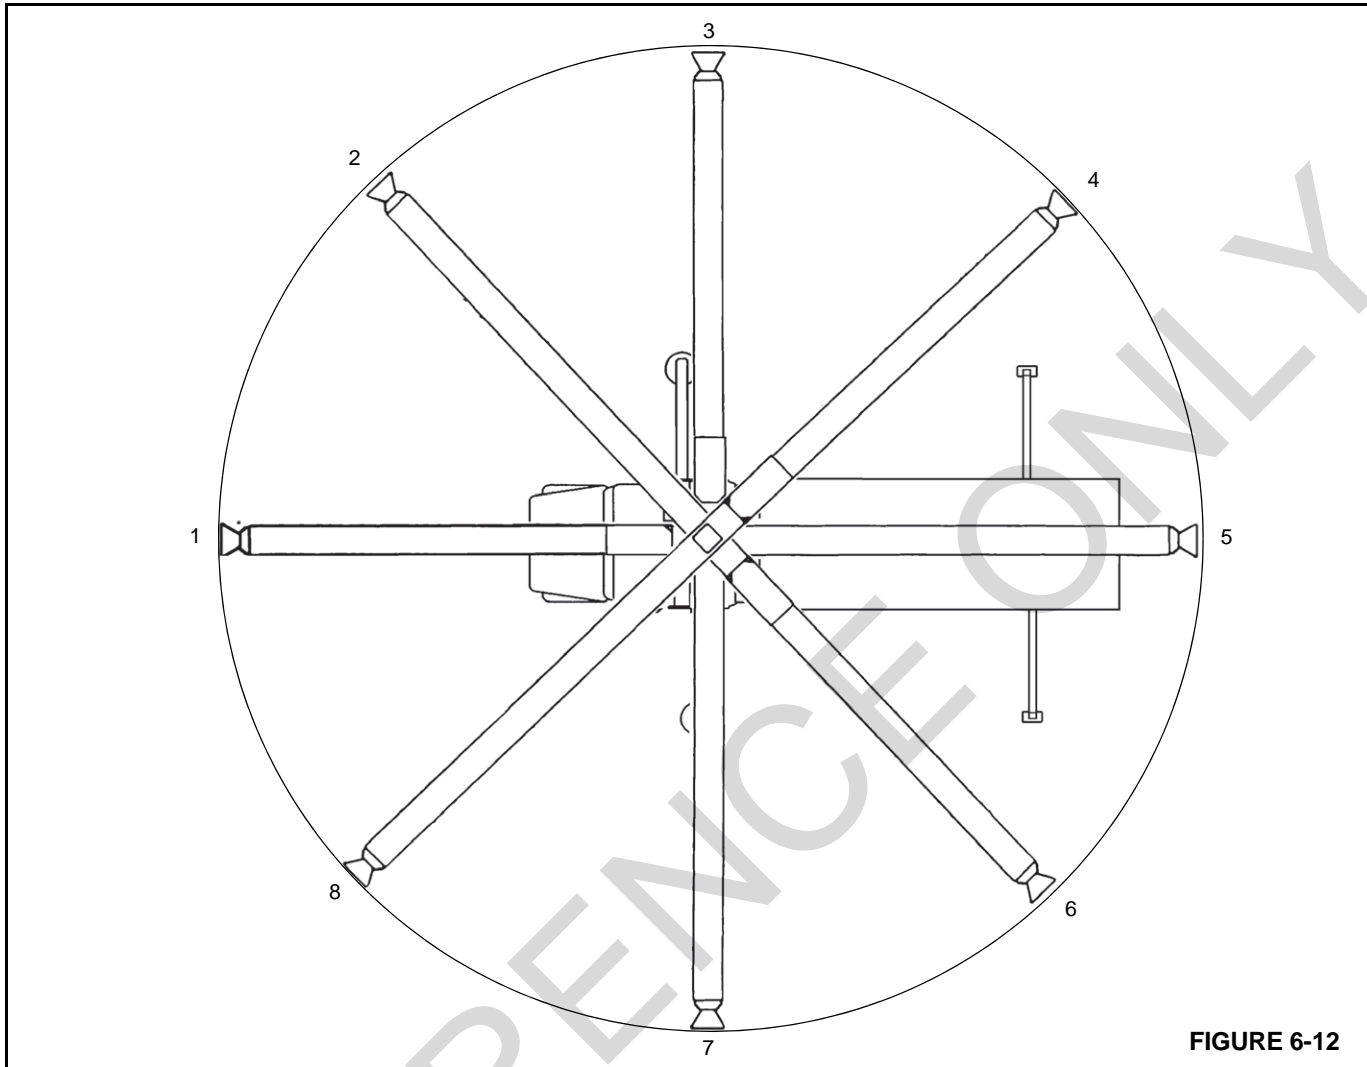

FIGURE 6-12
10. If the average is less than 0.090 in, repeat the measurement at every 45° around the total working area of the crane (Figure 6-12).